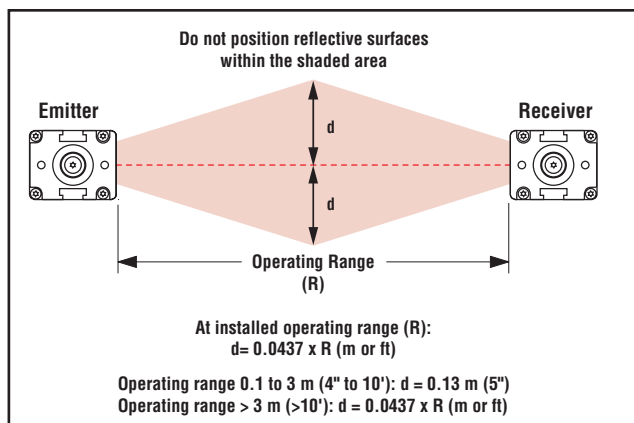

Figure 3-6. Adjacent reflective surfaces
A reflective surface located adjacent to the defined area may deflect one or more beams around an object in the defined area. In the worst case, an “optical short circuit” may occur, allowing an object to pass undetected through the defined area (see Figure 3-6).
- **If possible, relocate the sensors** to move the beams away from the reflective surface(s), being careful to maintain adequate separation distance (see Figure 3-6).